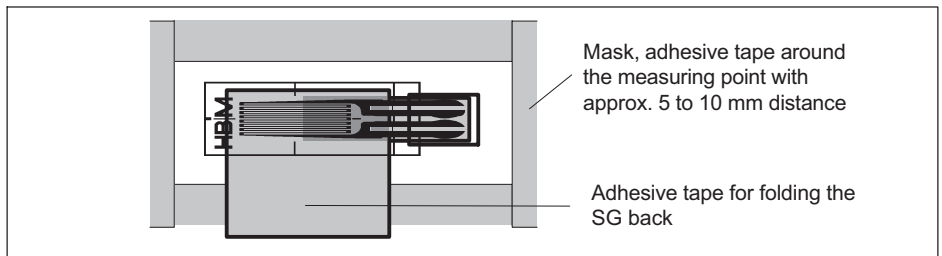

Fig. 6.4 Preparing the SG installation point
- ▶ Apply adhesive tape around the installation area at a distance of approx. 5 to 10 mm (see Fig. 6.4).